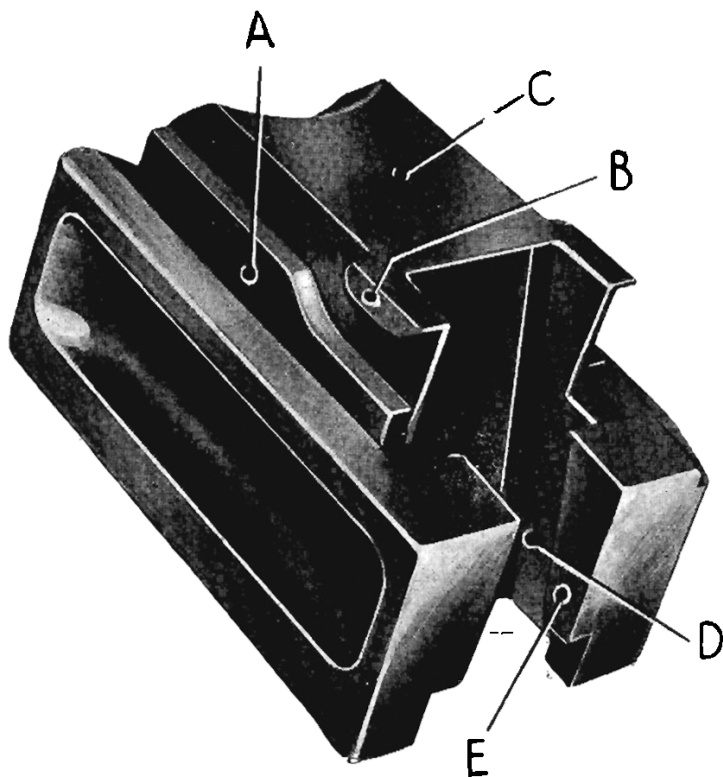

Figure 78. Breech Block
Lugs (H) on the lower arms project inward to engage cam surfaces of the breech block (A, Fig. 78). The lugs are held to the front by the extractor plunger springs (D, Fig. 44) and lock the breech block in the open positions by engaging the locking studs (B, Fig. 78) on the face of the breech block. Two holes in the rear face of the breech ring (see Fig. 45) contain the extractor springs and plungers.
The breech block (see Figs. 78 and 44). The large centre passage (J, Fig. 44) in the breech block houses the firing pin guide assembly and firing springs (K). The breech block bushing (C, Fig. 78) is screwed into the forward end of the passage and machined off.
The bottom of the breech block is cut from front to rear by a T-slot (D, Fig. 78), which inclines downward to the rear. The crank trunnions (N) slide in the T-slot to raise and lower the breech block. The top of the block is U-shaped to guide the shell into the chamber and presents a bevelled frontal surface to force the shell home as the block rises. The left side of the block is recessed and bored to receive the sear arm (E, Fig. 44) and sear spring. A further recess is formed at upper left side of the block to receive the cocking lever. A hole in the rear face of this recess, houses the cocking lever plunger and spring. Portions of the right and left sides of the breech block are cut away to reduce weight. Locking studs (B, Fig. 78) are provided on the breech block face to hold the breech block in the open position. Two stopping lugs (E) on the rear base of the breech block stop its upper movement.